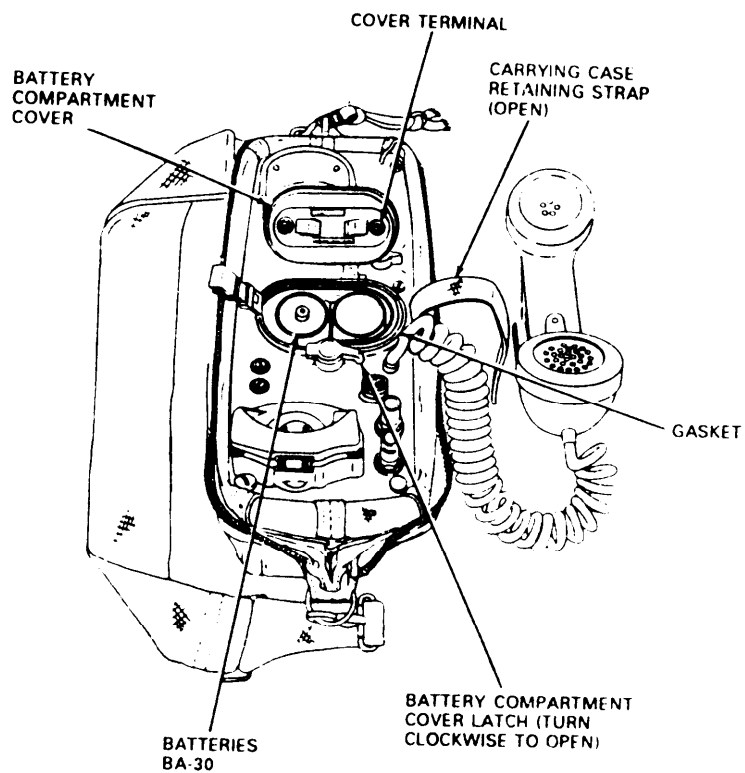

Figure 2-2. Telephone Set TA-312/PT, Batteries Installed.
f. Install Batteries BA30 (fig. 2-2).
- (1) Remove the H-60/PT from the retaining cradle, and open the carrying case retaining strap.
- (2) Rotate the battery compartment cover latch clockwise until the cover is released. Lift the cover to expose the battery compartment.
- (3) Insert two Batteries BA-30 in the battery compartment, one with the positive terminal up, and the other with the positive terminal down.
- (4) Close the cover, and turn the cover latch counterclockwise to lock the cover closed.
- (5) Refasten the carrying case retaining strap over the battery compartment, if the TA-312/PT is to be kept in the carrying cases.